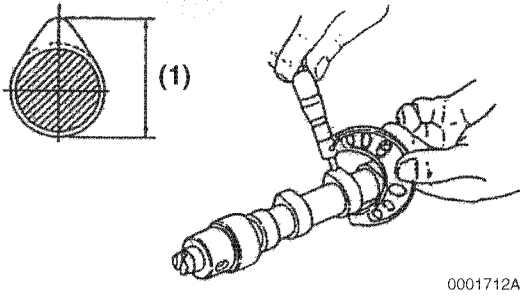

Figure 6-122
3. Measure the height of each lobe (**Figure 6-122, (1)**). See *Camshaft on page 6-11 for specifications*.